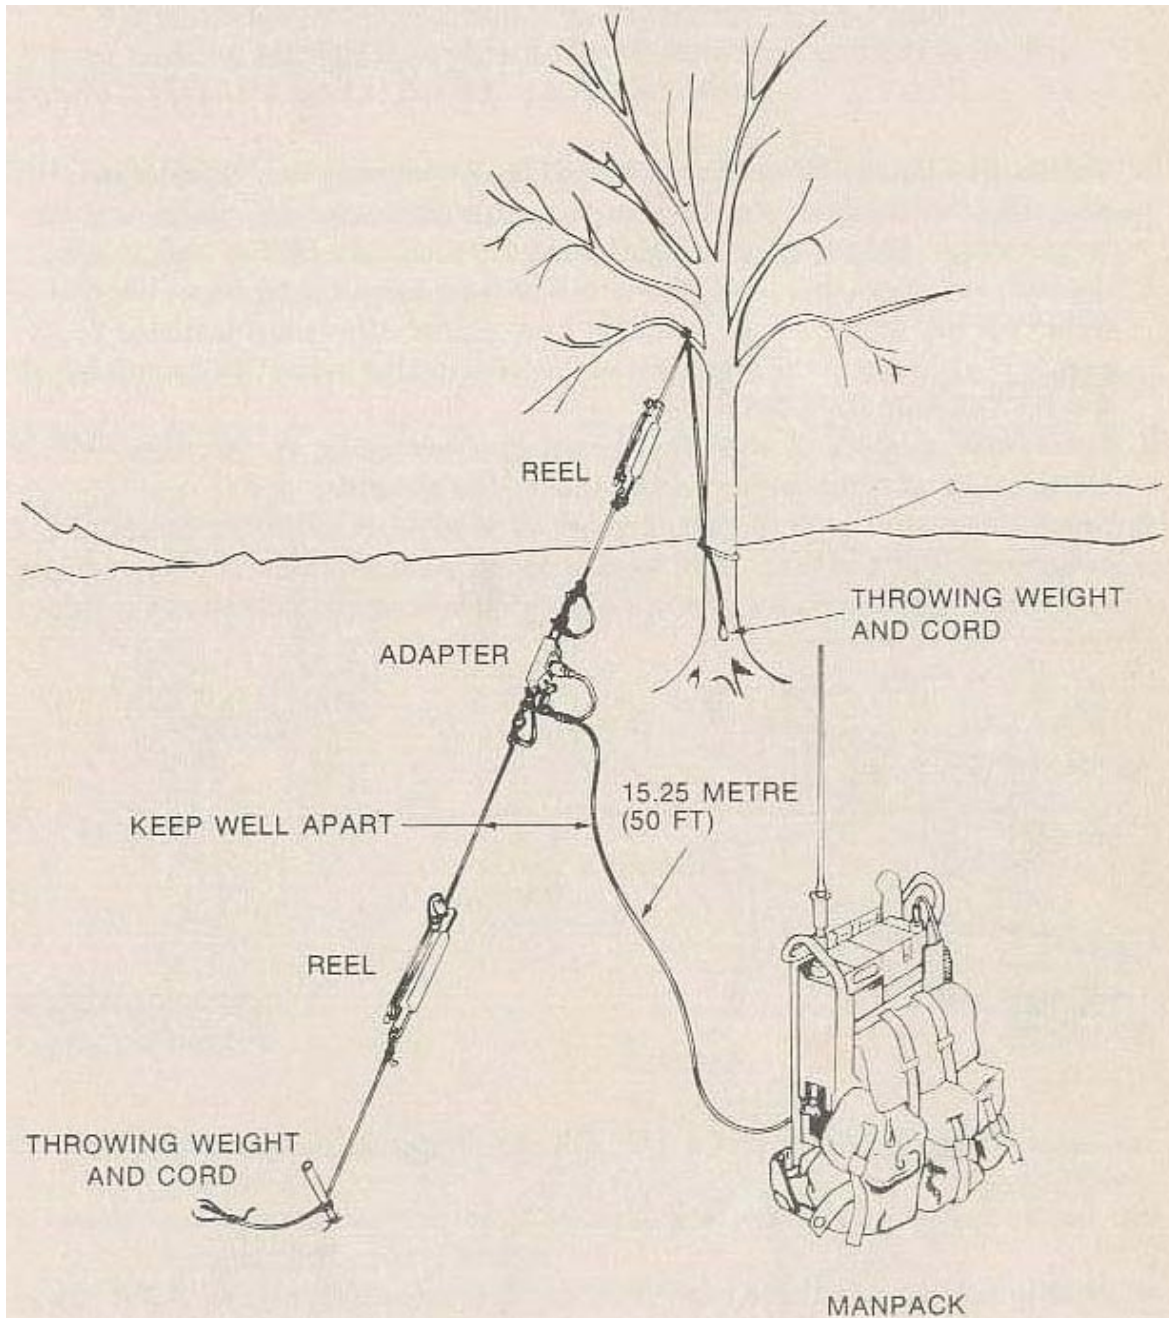

Figure 11. Vertical Orientation of 938A-1 Antenna
D. Erect the antenna with the wire as close as possible to the vertical position as conditions allow. Refer to figure 11.